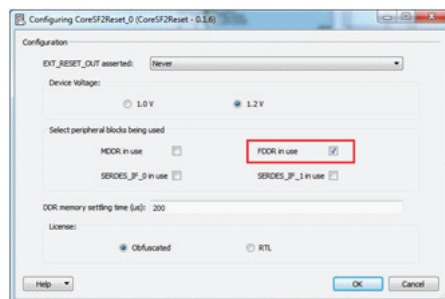

Figure 2-23 • CoreSF2Config IP Configuration
10. Instantiate `CoreSF2Reset` in the SmartDesign canvas and configure for FDDR, as shown in Figure 2-23. Make the connections to `CoreSF2Reset` and `CoreSF2Config` accordingly.